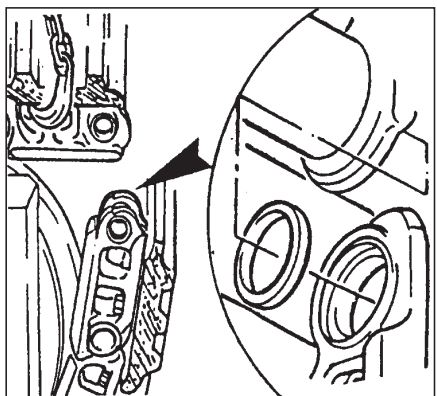

Fig. 3-18 Master collars – grease and install
7. Grease two master collars and place in link pin boss (fig. 3-18).